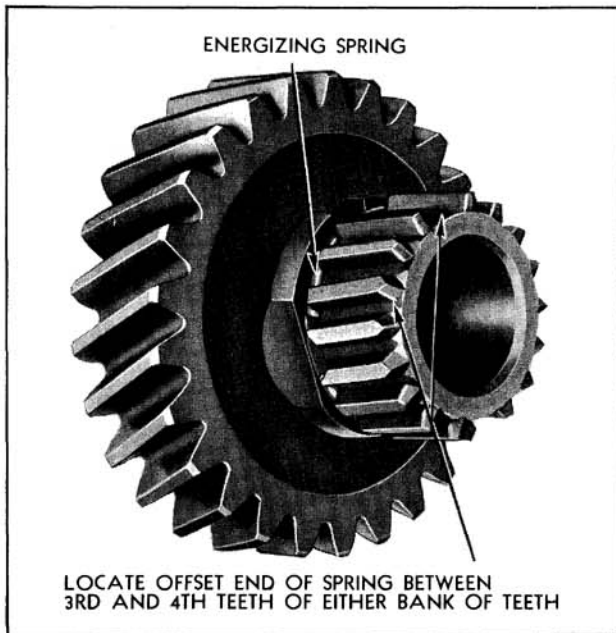

Fig. 7-16 Position of Energizing Spring
1. It will be noticed upon examining these springs that one of the ends is slightly offset. Each spring must be assembled in the clutch gear and the second-speed gear with the offset or locking end between the third and fourth teeth of either of the two banks of teeth on these gears, thus keeping the spring from turning in its groove. (Fig. 7-16)